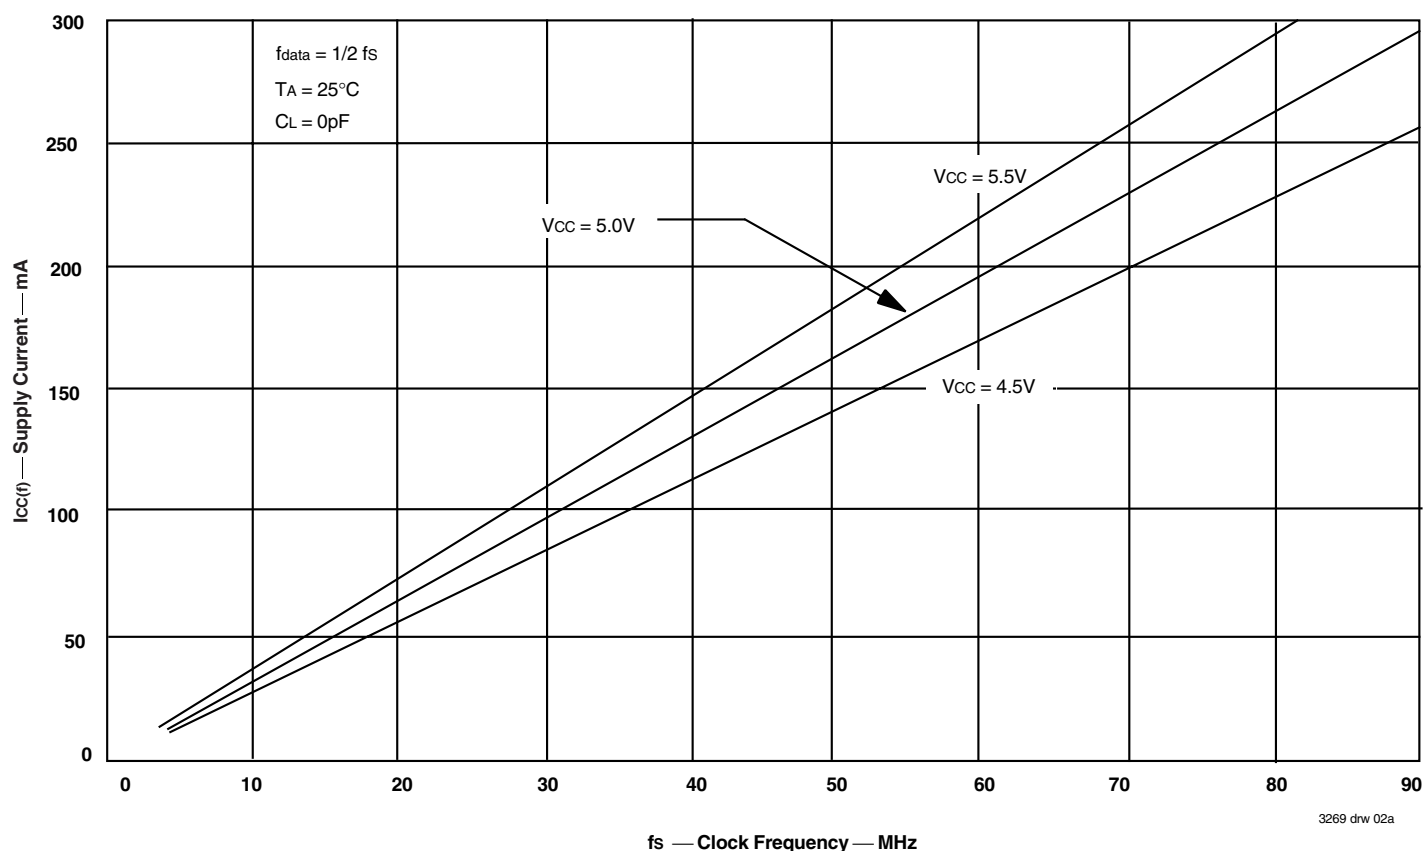

Figure 1. Typical Characteristics: Supply Current (I_{CC}) vs. Clock Frequency (f_s)
- For additional I_{CC} information, see Figure 1, *Typical Characteristics: Supply Current (I_{CC}) vs. Clock Frequency (f_s)*.
The $I_{CC(f)}$ current for the graph in Figure 1 was taken while simultaneously reading and writing a FIFO on the IDT723623/723633/723643 with CLKA and CLKB set to f_s . All data inputs and data outputs change state during each clock cycle to consume the highest supply current. Data outputs were disconnected to normalize the graph to a zero capacitance load. Once the capacitance load per data-output channel and the number of IDT723623/723633/723643 inputs driven by TTL HIGH levels are known, the power dissipation can be calculated with the equation below.
With $I_{CC(f)}$ taken from Figure 1, the maximum power dissipation (PT) of these FIFOs may be calculated by: